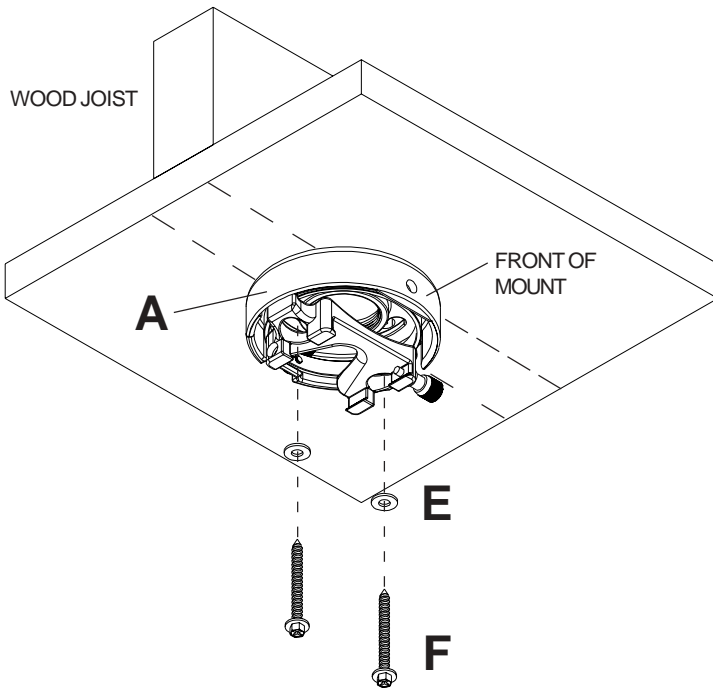
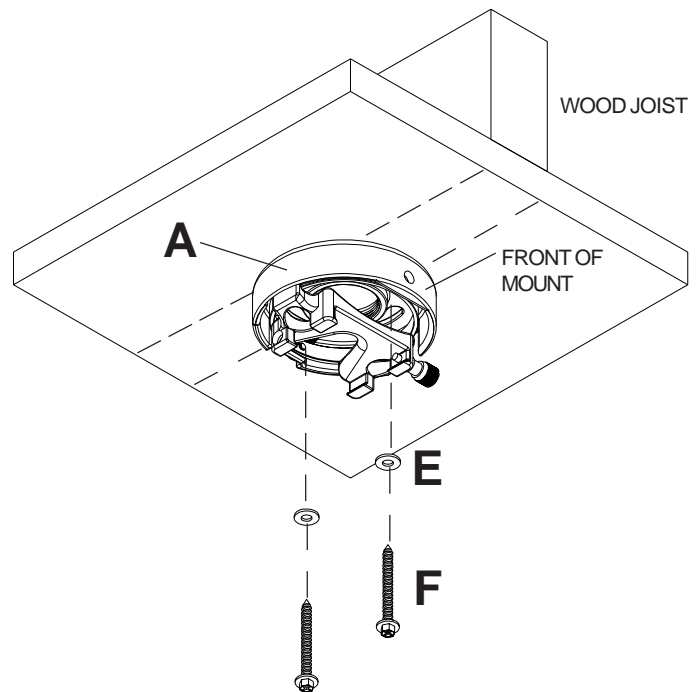

figure 1
figure 2
1 Drill two 5/32" (4 mm) dia. holes to a minimum depth of 2.5" (64 mm). Attach projector mount assembly (A) with two #14 x 2.5" (6 mm x 65 mm) wood screws (F) and two flat washers (E) as shown in **figure 1** or **figure 2** depending on joist orientation. Tighten wood screws (F) using 3/8" (10 mm) socket wrench until projector mount assembly (A) is firmly attached.